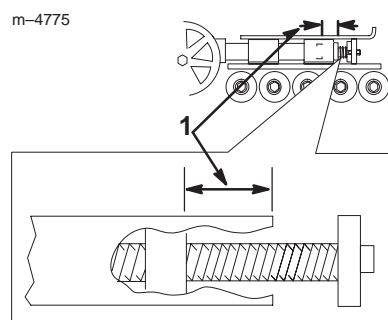
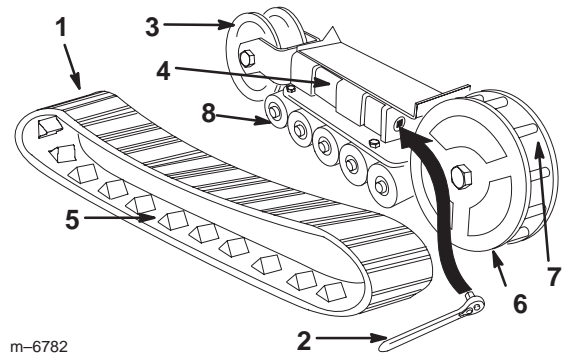

Figure 45
Figure 47
Check and adjust the track tension every 100 operating hours. There should be 2-3/4 inches (7 cm) between the tension nut and the back of the tension tube (Fig. 45). If not, adjust the track tension using the following procedure:
4. Using a 1/2 inch drive socket (Fig. 47), turn the tensioning screw counter-clockwise until the distance between the tension nut and the back of the tension tube (Fig. 45) is 2-3/4 inches (7 cm).
5. Push the tension wheel toward the rear of the unit to move the fork tube against the frame (Fig. 47). (If it does not touch the frame, continue turning the tensioning screw until it does.)
7. When the track is off of the tension wheel, remove it from the drive sprocket and road wheels (Fig. 47).
8. Beginning at the drive sprocket, coil the new track around the sprocket, ensuring that the lugs on the track fit between the spacers on the sprocket (Fig. 47).
9. Push the track under and between the road wheels (Fig. 47).
11. Turn the tensioning screw counter-clockwise until the distance between the tension nut and the back of the fork tube (Fig. 45) is 2-3/4 inches (7 cm).